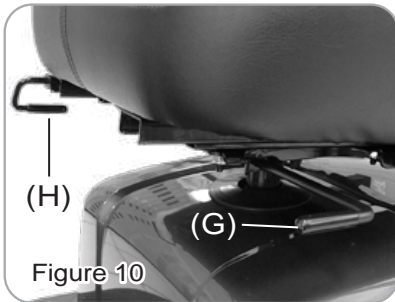

Figure 10
1. Adjust the handrail bolt's (F) height, to control the armrest's horizontal angle.
- SEAT ADJUSTMENT (See Fig. 10)
1. Pull the seat rotation lever (G) up to adjust seat's turning angle, also can lift up the seat.
2. Pull the seat sliding lever (H) up to adjust the seat to either go forward or backward to an appropriate position.